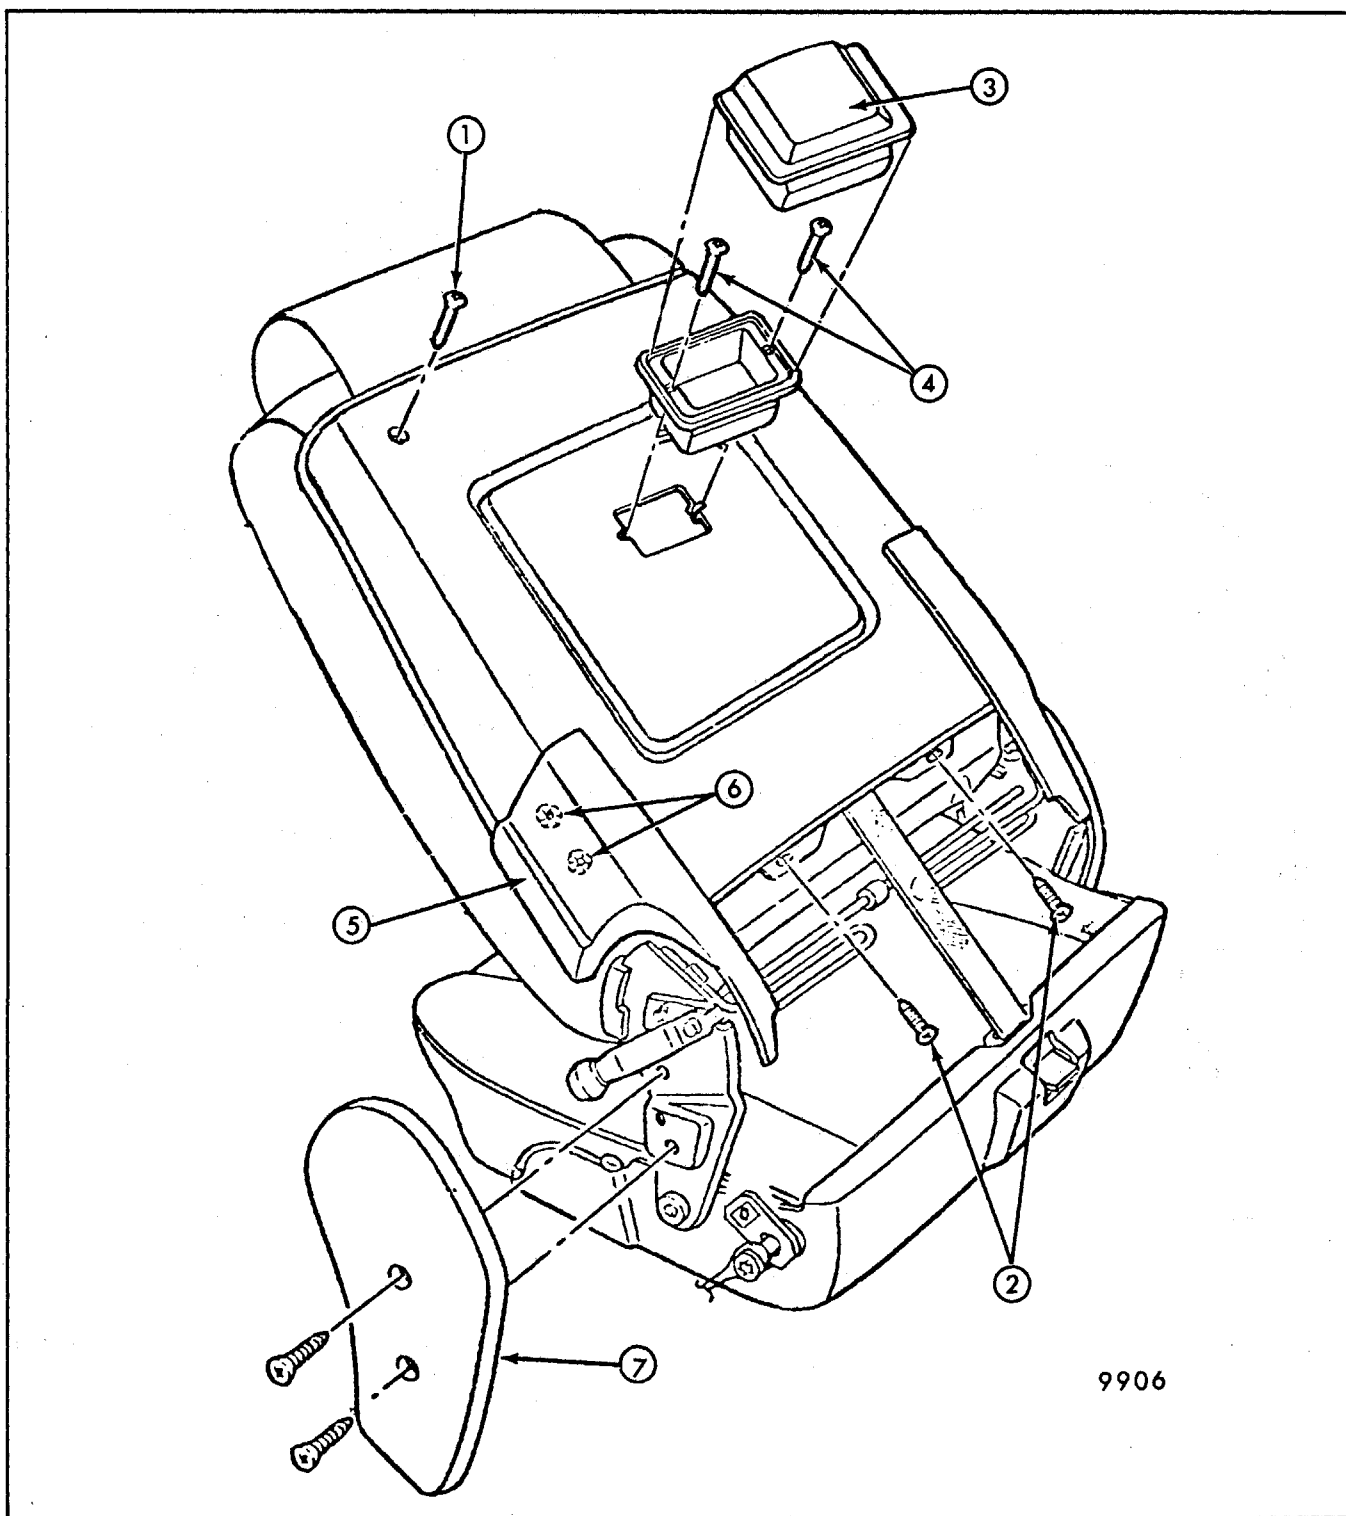

Fig. 9-74 - Reclining Seat Back Panel - Reclining Seat Back - A Styles
2. Remove screws securing lower corners and lower center of seat back panel (Fig. 9-74). Remove ash tray cover and receiver; then remove ash tray escutcheon attaching screws which also secure back panel to seat frame (Fig. 9-74). On bucket seats with reclining seat back, remove reclining hinge finishing covers.